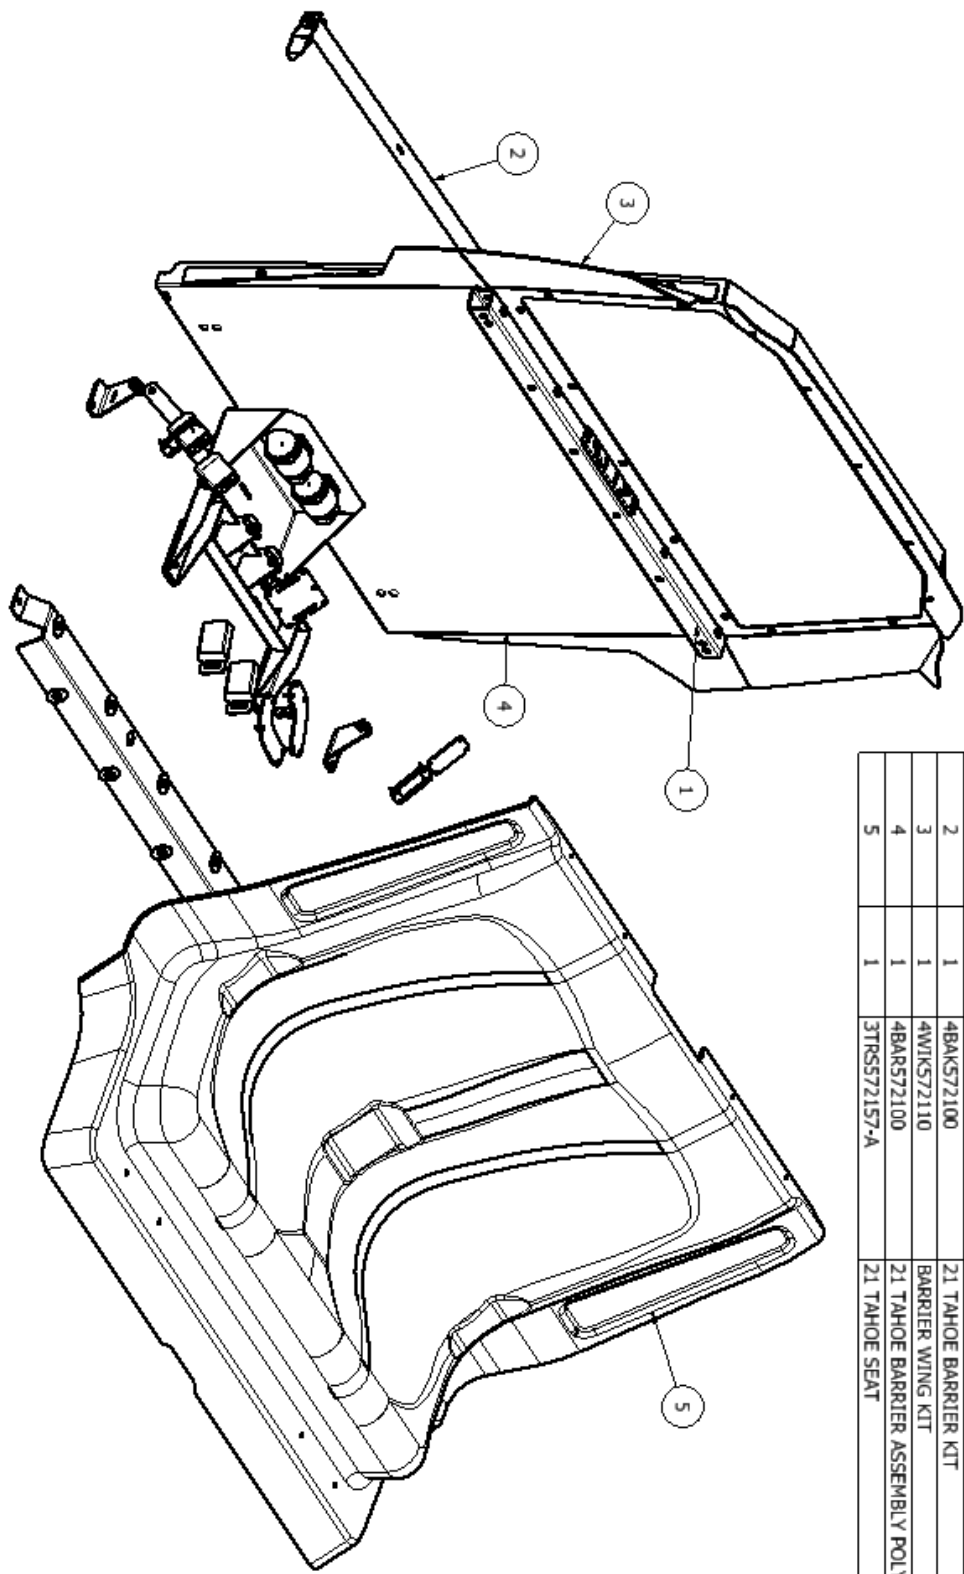

Figure 8
- G. Locate (1) Partition Buckle [3OSB109RP-1], (2) 1/4" carriage bolts [3X36], (2) 1/4" whiz nuts [3X16Z], and (2) plastic nut caps [3X145]. Position the Partition Buckle in the desired belt park position on the passenger Partition Mounting Plate, mark the location for (2) holes, drill the holes, then attach the buckle to the partition with the hardware gathered. Repeat for the driver side if using a full OSB system. Figure 8 shows the recommended position for the Partition Buckles.